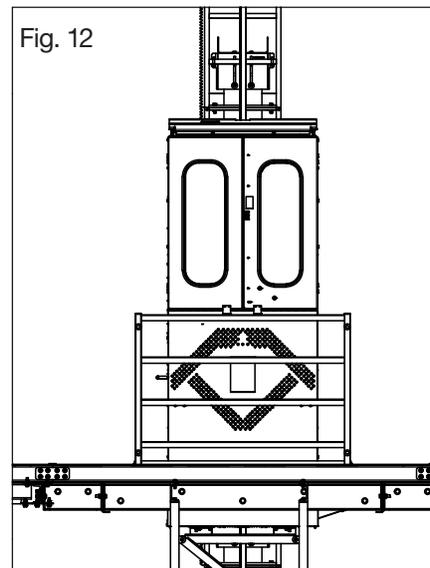

Fig. 12
- 9.1. For bucket type: adjust the bottom mechanical stop so that it is possible to open the double door just above the fence railing. The service lift must stop when obstruction device reaches the bottom mechanical stop (see Fig. 12).